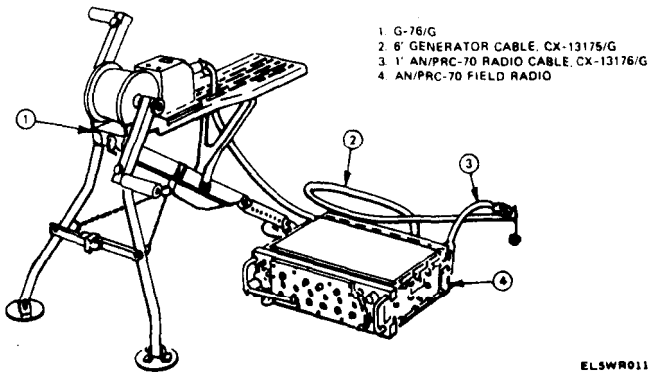

Figure 4-4. Handcrank Generator, G-76/G Configuration
a. *Equipment Setup.* The radio set can be operated without batteries by using the G-76/G, Handcrank Generator as a power source. Figure 4-4 shows this configuration which includes the following items: